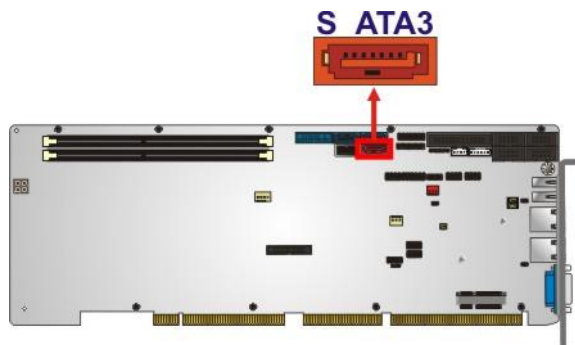

Figure 3-21: SATA 3Gb/s Drive Connector Location
- CN Location:** See Figure 3-21